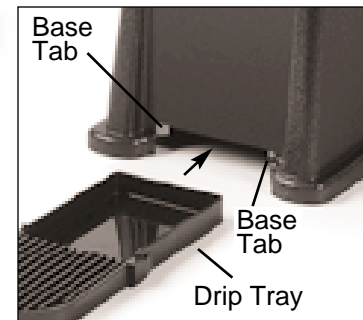

Fig. 5 Enlarged view of Figure 3.
3. With base on counter, slide the drip tray into the base opening until the tabs on the top of the drip tray touch the base tabs (Fig. 5).